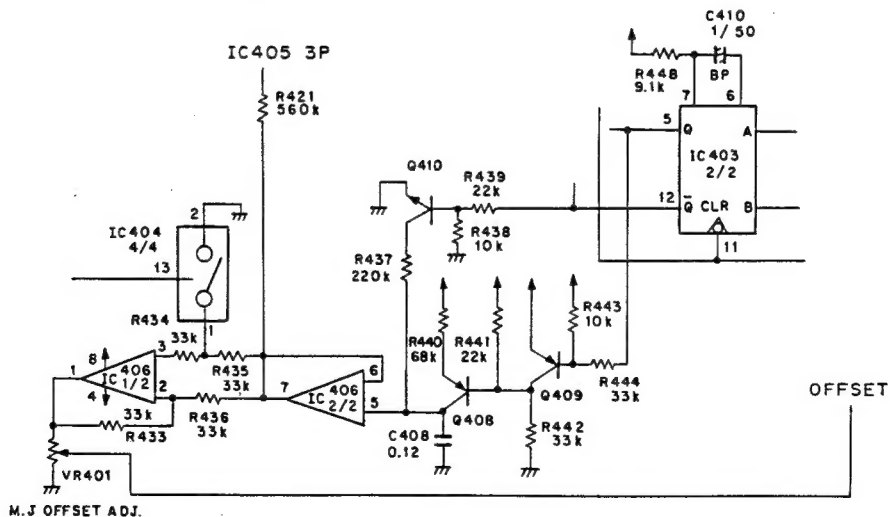

Fig. 5-5 Offset generator circuit
4) Offset Generator Circuit (Fig. 5-5)